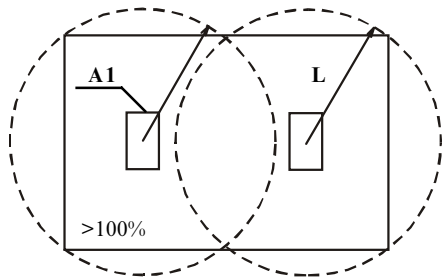
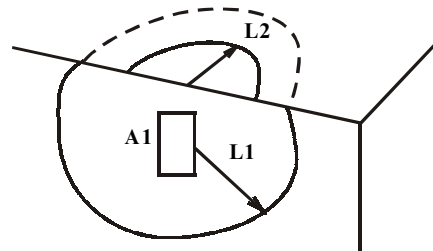

Fig.4 Total monitoring of an object
Fig.5 Monitoring an adjacent structure
- a full-size surface of an object (fig. 4), including adjacent structures (fig. 5).